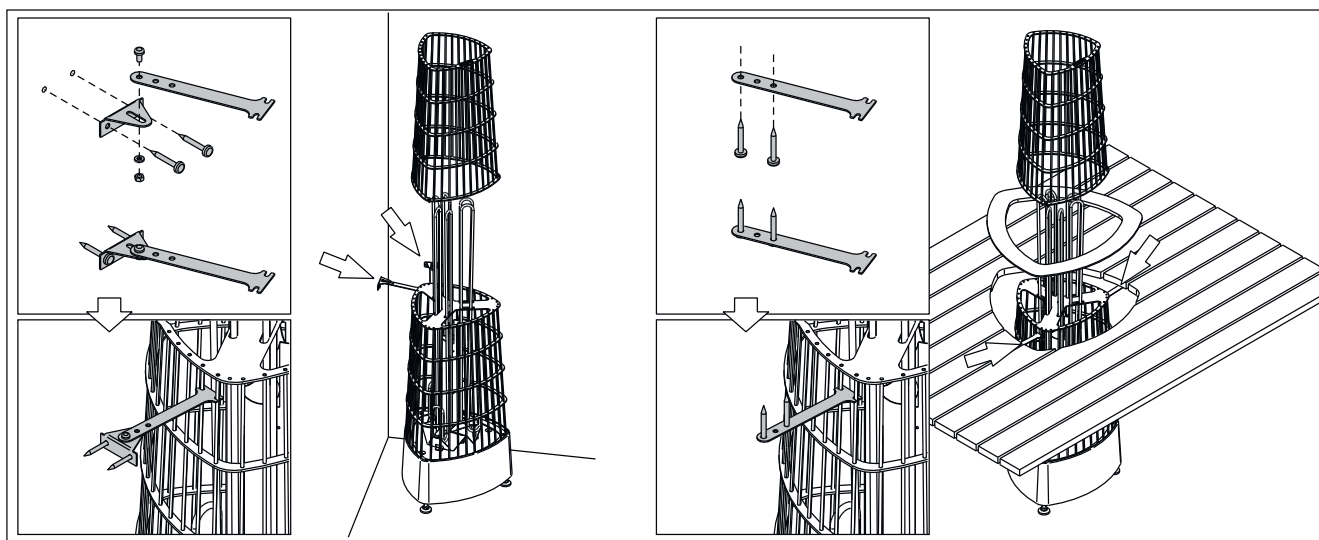

Figure 11. Fixing the heater with fixing kits
1. Place the heater and connect cables to the heater (see item 3.3. "Electrical Connections").
3. Use fixing kits (2 pcs) to fix the heater to sauna's structures. See examples of using fixing kits in figure 11. **Note! Fixing the heater from the top part of the steel frame can hinder stone piling and maintenance.**